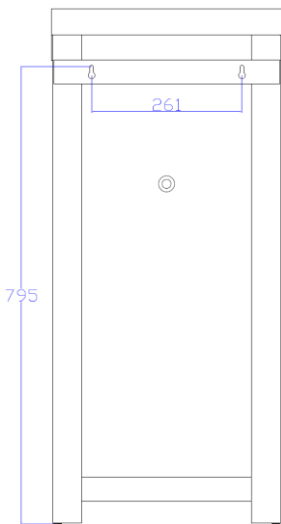

Fig.5
- Correctly measure the distance between those holes and the height of these to the floor and mark it on the wall (Fig.5)